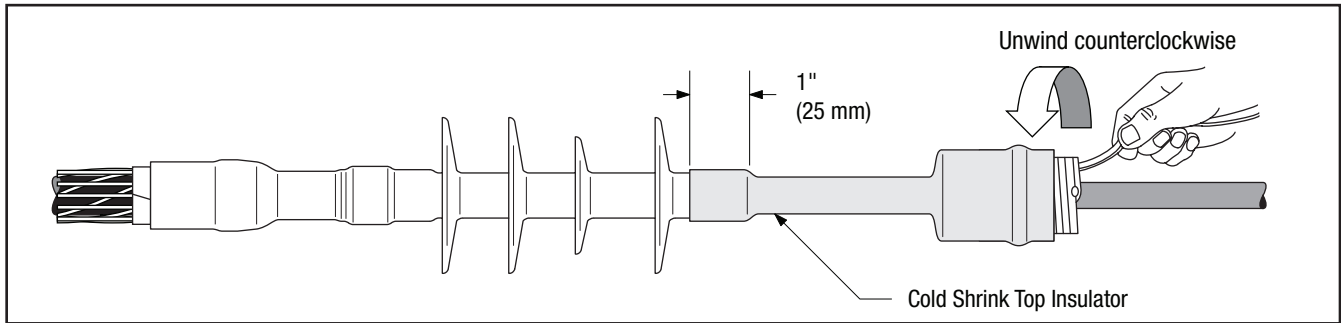

Figure 14
- 9.6 Slide the top insulator over the termination, lining up the edge of the top insulator tube (not the core) 1" (25 mm) from the termination edge and remove core. Pull the core while unwinding, counter-clockwise, starting with the loose end (Figure 14). Be sure to alternate the pulling and unwinding actions (pull-unwind-pull-unwind-etc.) to help prevent the core material from binding up as the core is being removed.